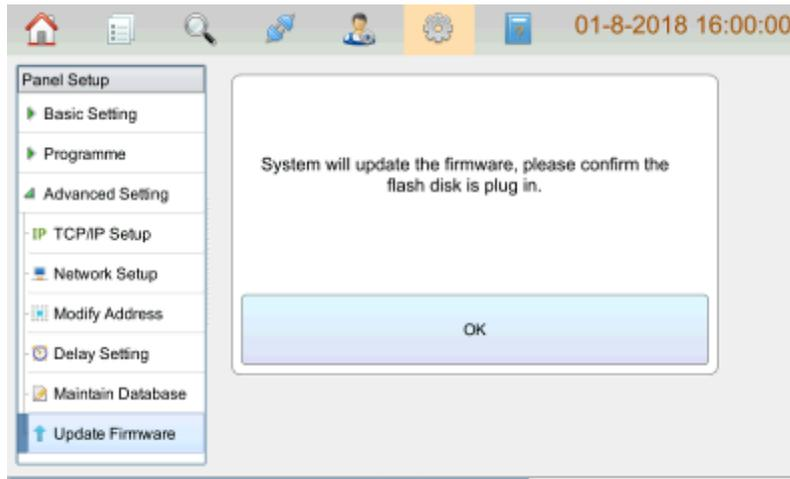

Fig4.36
- Update Firmware: Clicking **Update Firmware** in **Advanced Setting** menu and entering the super password (obtained from the maintenance service supplier), users can update firmware as shown in Fig 4.36, then insert U-Key into the LCD drive board and click **OK** to update firmware.